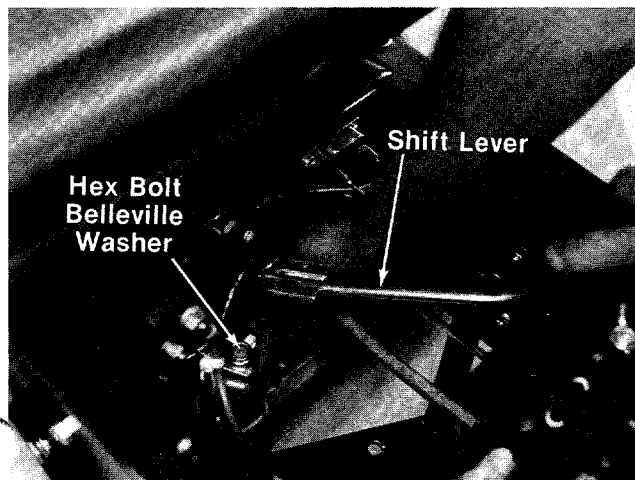

FIGURE 32.
6. Remove the transaxle shift lever by removing the hex bolt and Belleville washer. Lift off the special "D" washer. See figure 32.